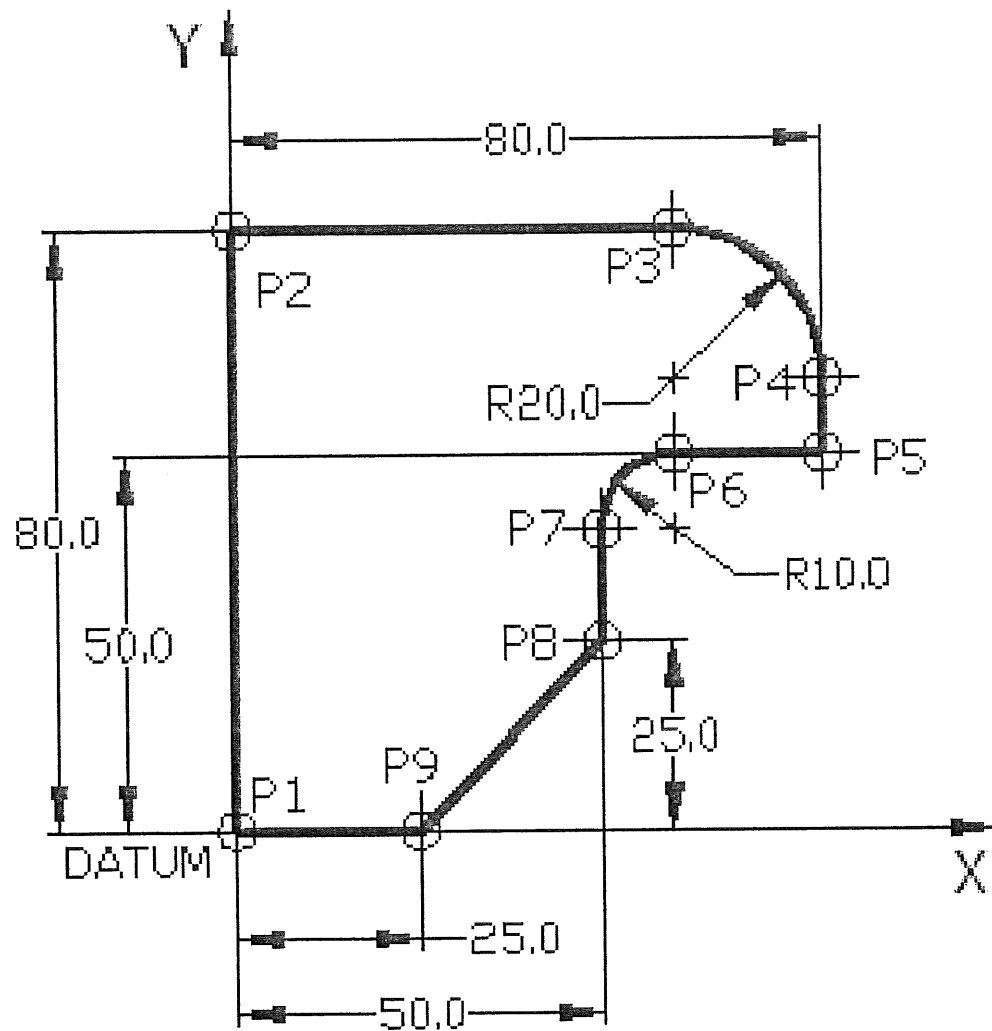

Figure 1
- a) The given drawing (Figure 1), determine coordinates of all points